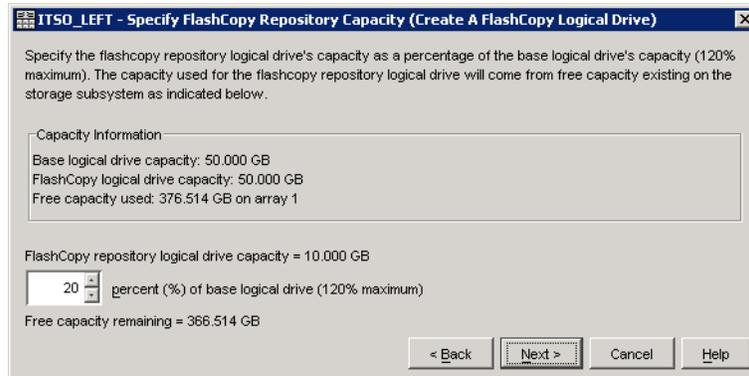

Figure 7-8 Specify repository logical drive capacity
- b. The next window displayed is the Specify Repository Logical Drive Capacity window. On the Specify FlashCopy Repository Logical Drive's Capacity window (Figure 7-8), set the repository drive capacity as a percentage of the base logical drive's capacity. This defaults to 20%.